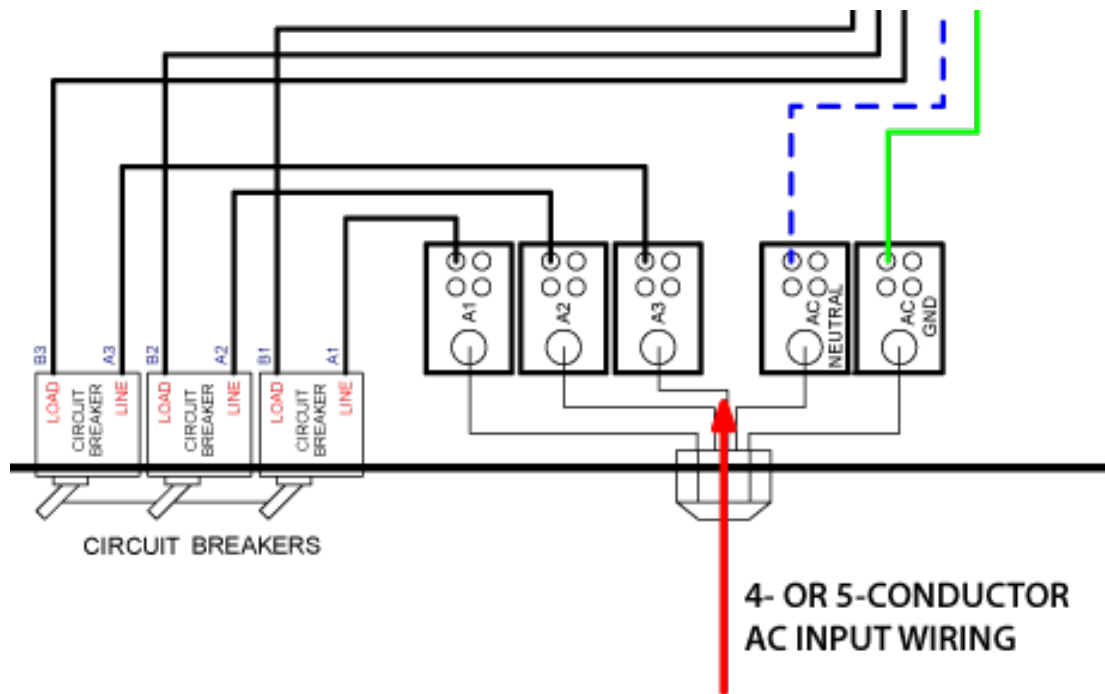

Figure 3.7 – Three-Phase AC Mains Wiring
5. Connect to the AC mains barrier strip as shown in **Figure 3.7**.